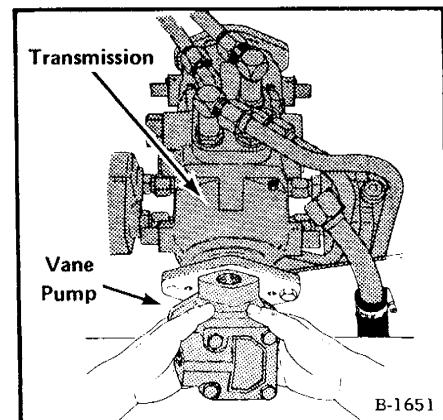

Fig. 2-14 Removing Vane Pump
(1) Disconnect the tubelines from the pump.
(2) Remove the two bolts which hold the pump to the transmission, and lift the pump out. (Hit with a soft hammer, if necessary, to loosen.) (Fig. 2-14).